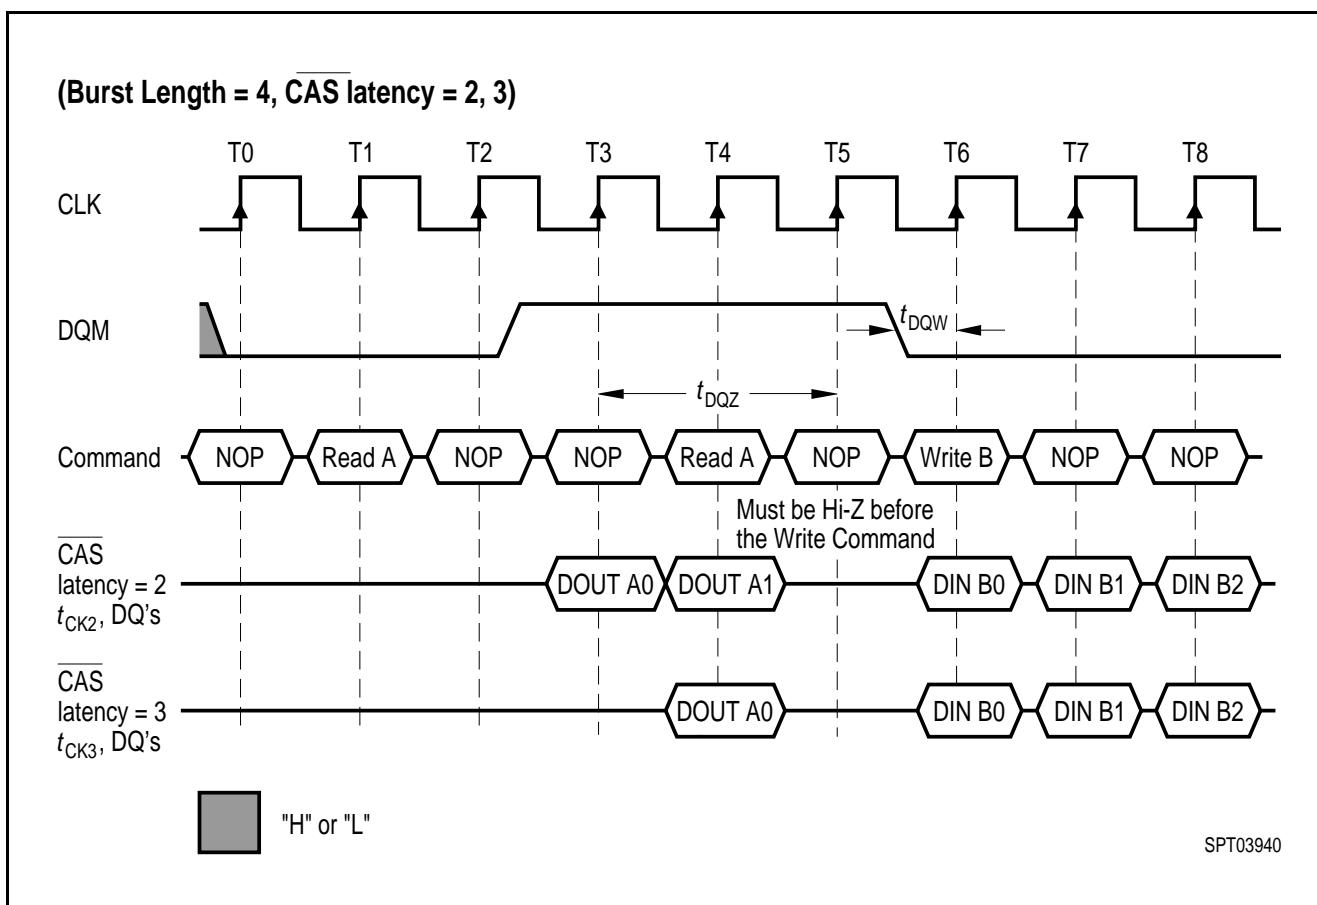

Figure 10 Non-Minimum Read to Write Interval
- Figure 10 Non-Minimum Read to Write Interval